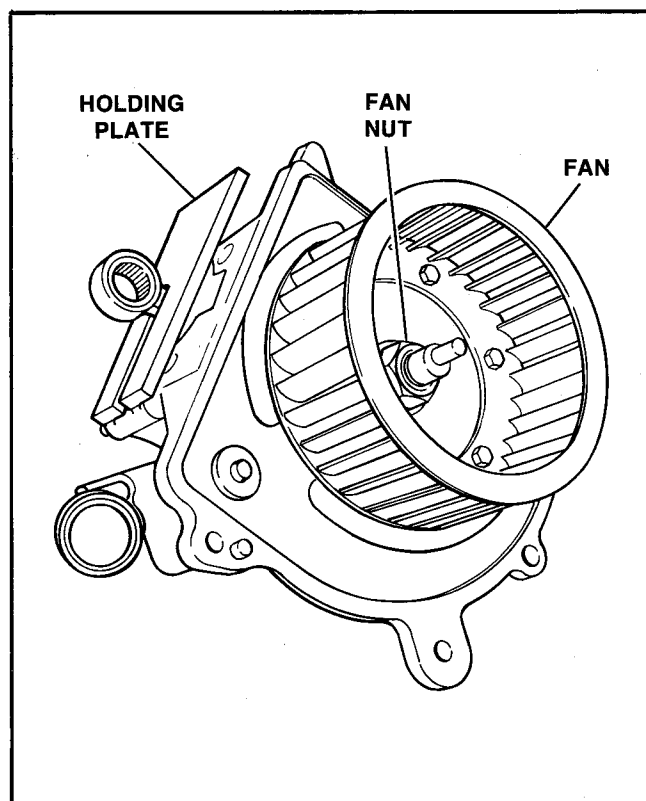

Figure 57 - Fan Removal
- f. See Figure 57. Place the CONNECTING ROD HOLDING PLATE, Part No. 94403-80, under rod upper end and remove the fan nut (1) and fan (2).
- e. See Figure 57. Install fan (2) on the ignition point side of the crankcase. Using the CONNECTING ROD HOLDING PLATE, Part No. 94403-80, install the fan nut (2). Tighten the fan nut to 50-70 ft.-lbs. torque.